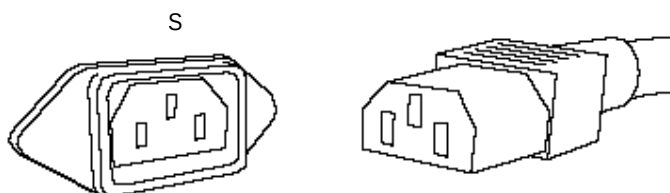

Figure 8 - Align socket pins to corresponding holes and push together.
S- Detachable AC Power Cord Socket - Plug the Power Supplies' AC Power Cord into this socket (see Figure 8). The Processor 3 is factory set for the correct operating voltage for the area in which it is sold (see rear of power supply for voltage setting). If a different operating voltage is required, please contact an authorized Sonic Frontiers dealer, distributor or the factory directly.
T- Power Supply Umbilical Cord - This Umbilical Cord exits the Power Supply to plug into the Power Supply Input Socket (E) on the Main chassis (see Figure 8 for connection).